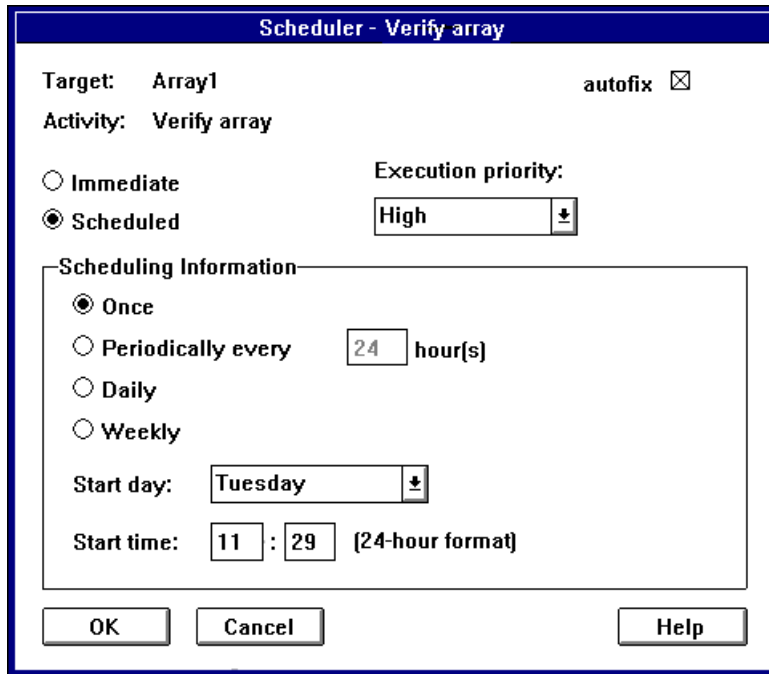

Figure 5-2. Scheduler Dialog Box
button to verify the data on the array. The Scheduler dialog box appears, as shown in Figure 5-2.
- 4 When the Spare Operations dialog box appears, click the  button. The Scheduler dialog box appears, as shown in Figure 5-2 on page 5-7.